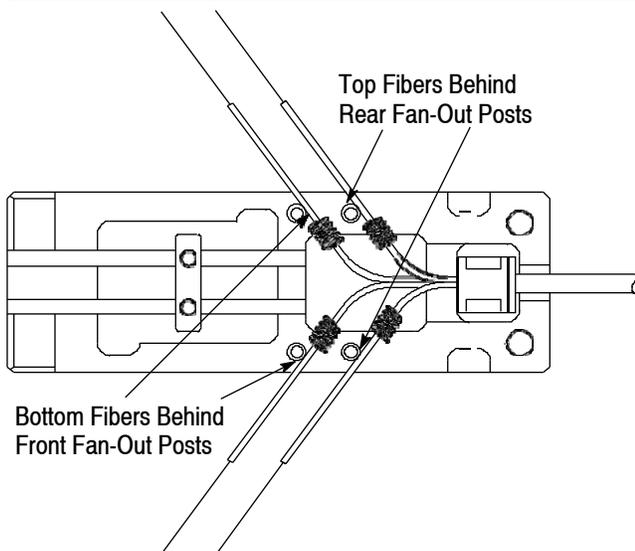

Figure 3
- Refer to Figure 3, and using tweezers, perform the following: